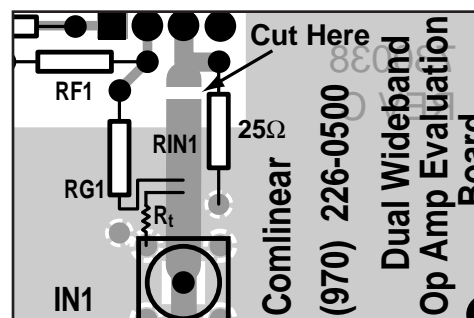

Figure 2: Modifications for Inverting Gains (CLC730038 board shown)
1. Cut the input trace as shown in Figure 2
3. Terminate R_g at the input trace instead of ground (See Figure 2)